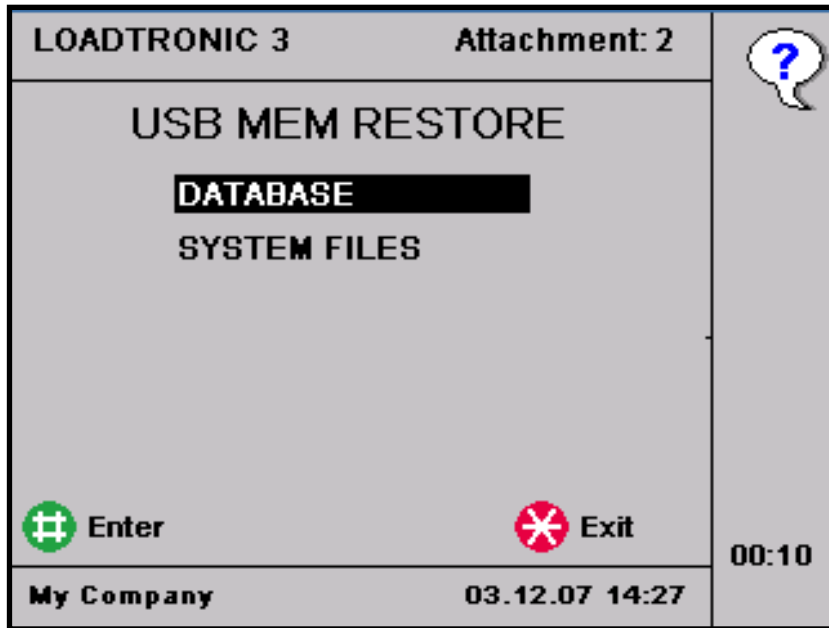

Figure 5-5 Restore.
2. Select which files to restore: Database or System Files, refer Figure 5-5.